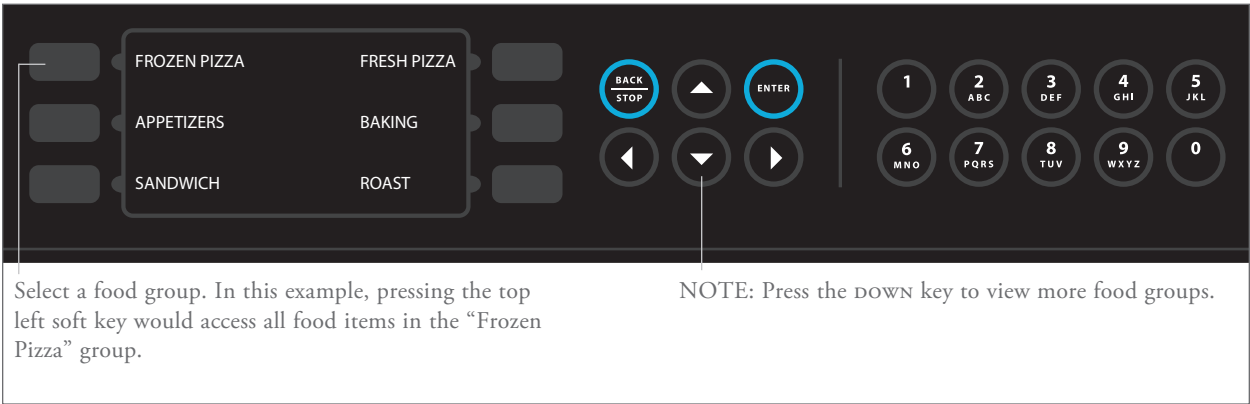

FIGURE 9: Selecting a Food Group
- 4. Select a food group (Figure 9).